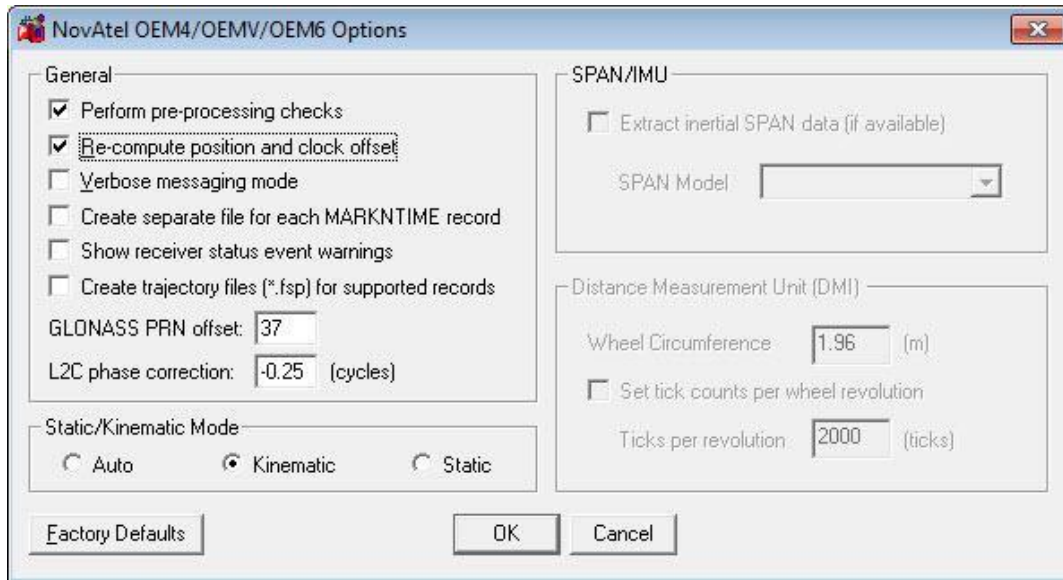

Figure 7-4 NovAtel OEM4/OEMV/OEM6 Options Dialog
- In the **Receiver Type** section, select **NovAtel OEM4/OEMV/OEM6** then click on the **Global Options** button which opens the **NovAtel OEM4/OEMV/OEM6 Options** dialog (Figure 7-4).